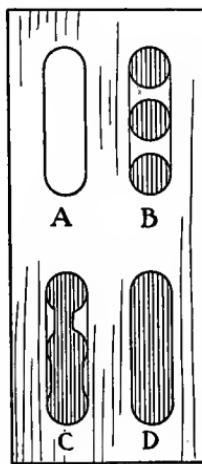

FIG. 154.—How to Cut Slots.
**The Cutting of Slots** is done similarly (Fig. 154). First, the slot is marked out (*A*); then a hole is bored at each end, and one or more between them (*B*); then the wood between the holes is split out (*C*); and then the sides of the slot are trimmed up to the finished line (*D*). If the ends of